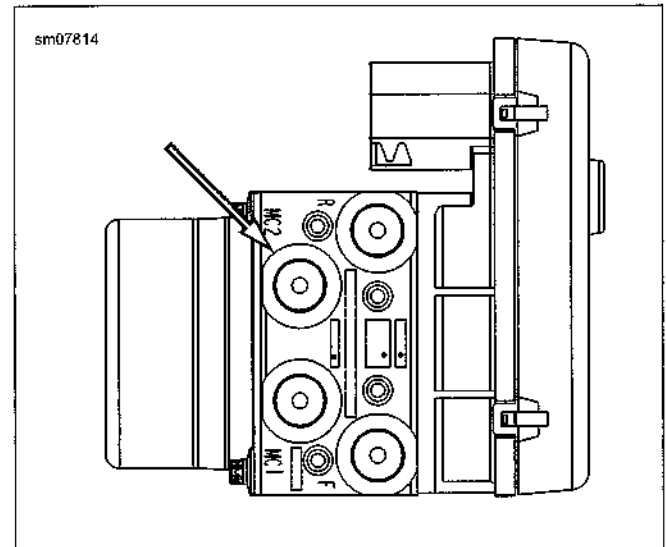

Figure C-11. EHC Rear Master Cylinder MC2
9. See Figure C-11. Remove the EHC MC2 banjo bolt. Discard sealing washers.